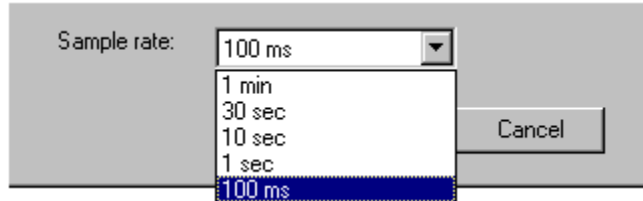

Figure 7.12: Sample Rate Selections (Ethernet Shown)
- 5) The **Sample rate** of the graphing data or the amount of time per point can be set with this drop down box. Clicking on the down arrow will display a list of sample rates available (Fig 7.12) Select a new sample rate and click on OK to close the window. The default rate is 1 second